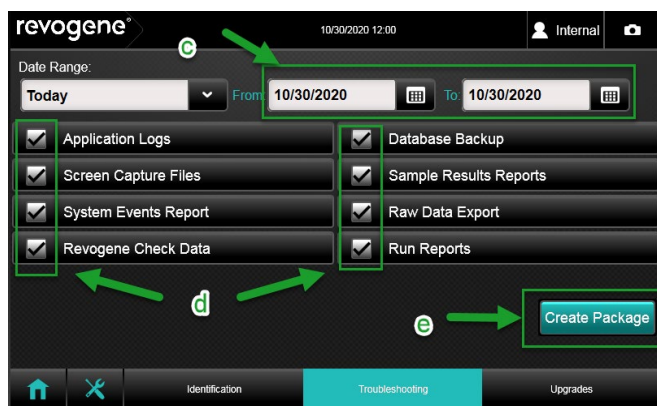

Figure 20. Troubleshooting Package Parameters
- c. Select the date range that covers the period in which the runs were executed. **Note:** If a repeat was executed, make sure the date range covers the initial run and the repeat run (Figure 20, c).
- d. Tap all the checkboxes so they are checked (Figure 20, d).
- e. Tap the "Create Package" button (Figure 20, e).